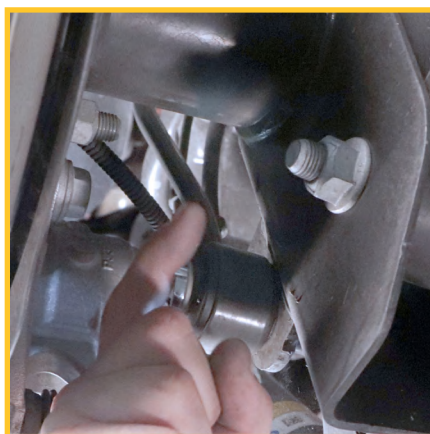

FIGURE 28
2. Remove rear sway bar end links completely. (FIGURES 28, 29)